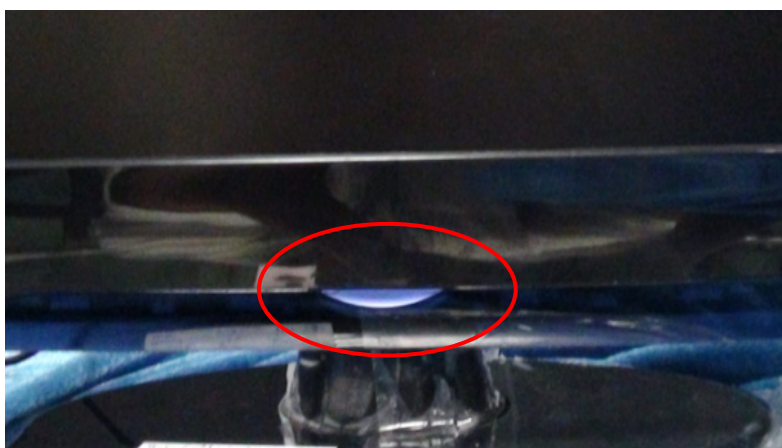
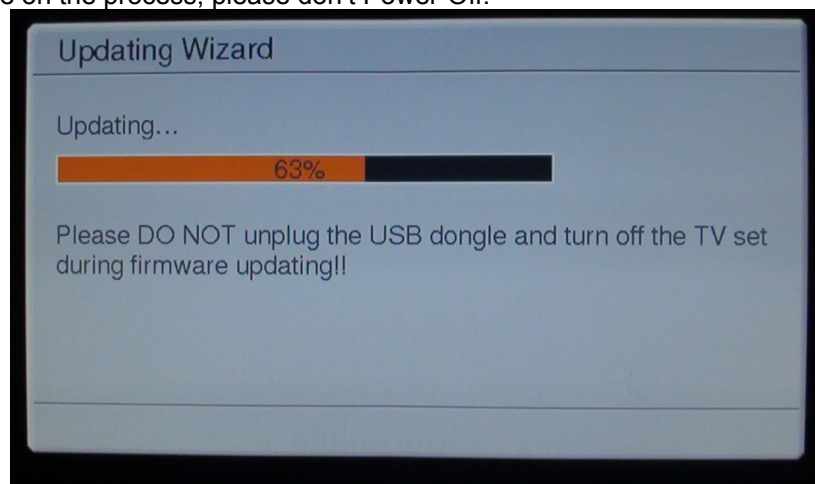

Figure 2.4.1
Figure 2.5
2.4 When TV detects the USB memory, the LED light flickers as figure 2.4.1. For a moment there is a prompt frame appearing on the screen as figure 2.4.2, press “OK” key(on the Navigation Keys on the Remote control, as follows Figure 2.4.3 ) to select “Yes” option to download F/W (Figure 2.5).